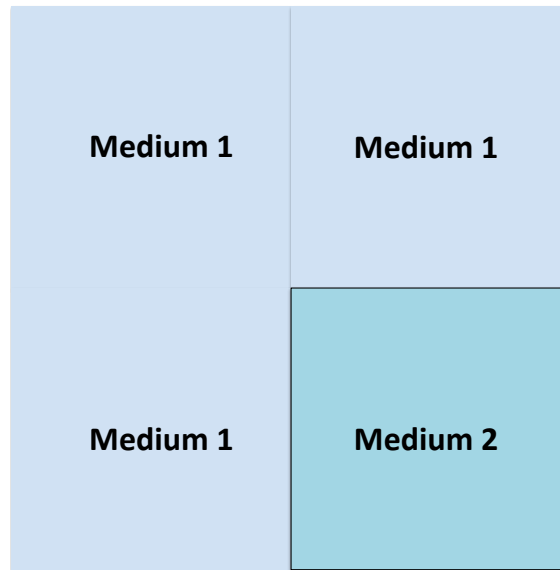

Figure 2: Computational domain in 2D with two different media.
Consider Maxwell's equation in 2D (1) with the computational setup presented in Figure 2. The computational domain consists of two different media, where the computational domain is split into 4 adjacent blocks. This setup is solved using the finite difference method presented in this course. Let $\mu_1 = 1$ and $\epsilon_1 = 1$ denote the physical parameters in medium 1. In medium 2, the parameters are denoted $\mu_2 = 1$ and ϵ_2 . The boundaries of the computational domain is between -2 and 2 in both dimensions. The divergence free initial data is given by $H^{(z)} = \exp\left(-\left(\frac{x-x_0}{r_*}\right)^2 - \left(\frac{y-y_0}{r_*}\right)^2\right)$ where $r_* = 0.1$, $x_0 = -0.5$ and $y_0 = 0.5$. The electric field is initially set to zero.